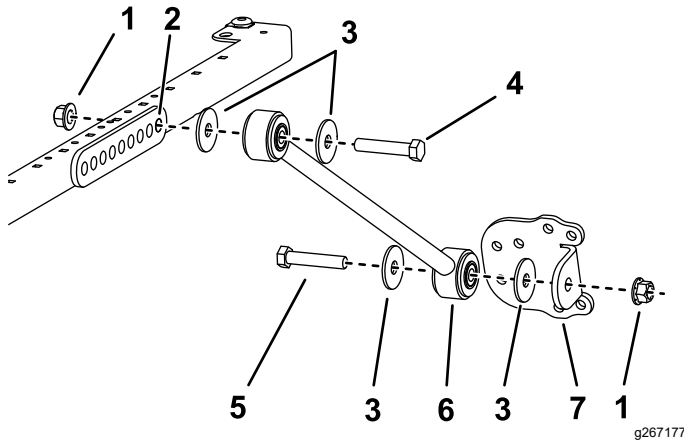

Figure 33
- For Models 03820, 03821, 30604, 30605, 30608, and 30609 on each side of the sunshade frame, loosely mount a brace to the **rear** hole of the brace bracket with a bolt (1/2 x 2-1/2 inches), washer (1/2 inch) and flange nut (1/2 inch) as shown in Figure 33.
- Loosely install a brace bracket to each brace with a bolt (1/2 x 2-1/2 inches), washer (1/2 inch), and flange nut (1/2 inch) as shown in Figure 33.